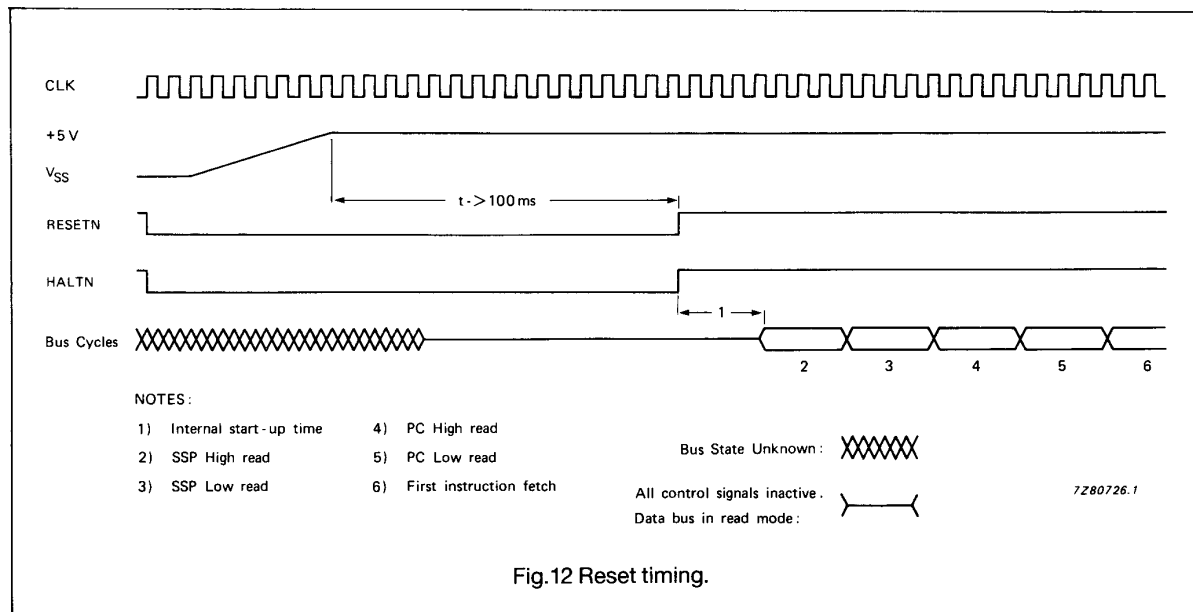

Fig.12 Reset timing.
When the CPU executes a RESET instruction, the RESETN signal is driven LOW for 146 clock cycles to reset internal and external peripherals. The CPU itself is not affected but all on-chip peripherals are reset. When both the RESETN and HALTN signals are driven LOW by an external device, the CPU and on-chip peripherals are reset. The CPU responds by reading the reset vector table entry (vector number zero, address 000000H) and loads it to the Supervisor Stack Pointer (SSP). Vector table entry number one (at address 000004H) is read next and loaded into the Program Counter (PC). The CPU then initializes the Status Register (SR) to an interrupt level of seven and instruction execution is started (see Fig.12). All 3-state output signals are placed in the high-impedance state for as long as the RESETN and HALTN signals are externally driven. When the RESETN and HALTN signals are released, the CPU will execute 4 read cycles after start-up time, to load the SSP High, SSP Low, PC High and PC Low. Then the first instruction is fetched and executed. The HALTN signal must be driven LOW at the same time as the RESETN signal. The SCC68070 will only start to read the stack and the initial Program Counter after both signals have been released. RESETN should not be released after HALTN. When VDD is initially applied to the SCC68070, an external RESET must be applied to the RESETN pins for at least 100 ms.